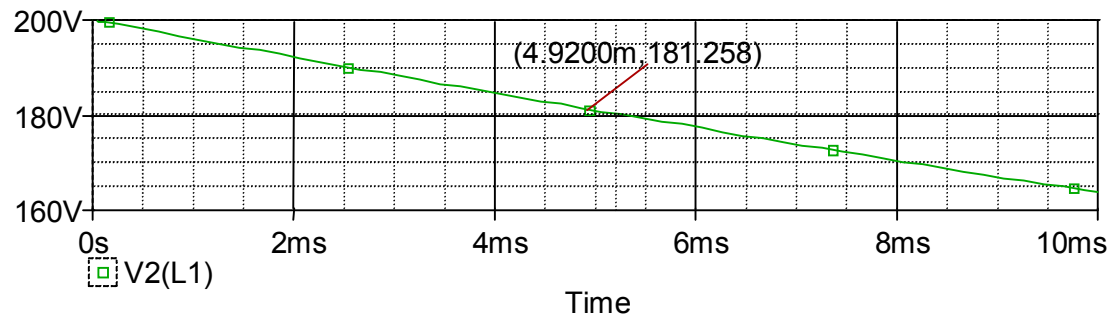

Figure 4.2 Trace of the voltage across the inductor with a point labeled.
If everything has been successfully completed to this point, the simulation may now be "Run". Once the simulation is complete the probe graph appears with the "Trace" buttons etc.. Choose "Trace->Add Trace" and then select V2(L1) from the list - or select V(1) from the list since the voltage at node 1 relative to ground (node 0) is that across L1 . Completing this process yields the trace in Figure 4.2.
The calculations suggested prior to the actual simulation should be $V(t) = 200e^{-20t}$ V and $I(t) = 12.5e^{-20t}$ A (this assumes the current to be flowing from terminal 1 to terminal 2 through the inductor, which is opposite the passive sign convention, so that a $-I(t)$ must be entered into the derivative when calculating the voltage) . If you substitute 4.92ms from Figure 4.2 into the expression for $V(t)$ the result should be 181.258V. Also, a plot